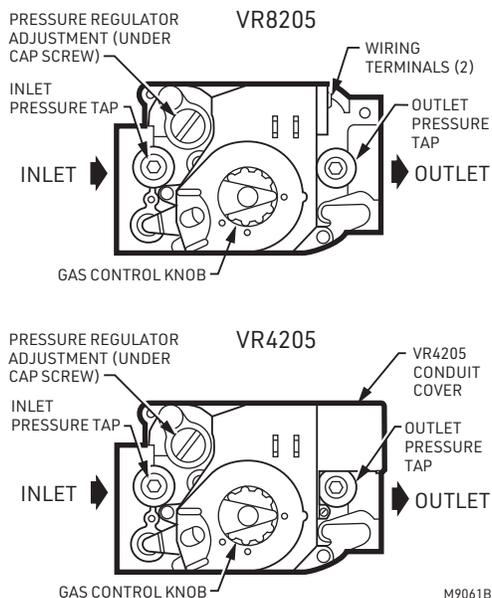

Fig. 5. Top view of gas control.
6. Connect pipe to control inlet and outlet. Use wrench on the square ends of the control. If an adapter is used, place wrench on adapter rather than on control. Refer to Fig. 5 and 6.
3. Connect control circuit to gas control terminals. See Fig. 5 and 7-9.
2. With main burner operating, check gas control flow rate using the meter clocking method or check pressure by using a manometer connected to the outlet pressure tap on the gas control. See Fig. 5.
2. With main burner operating, check gas control flow rate using the meter clocking method or pressure using a manometer connected to the outlet pressure tap on the gas control. See Fig. 5.